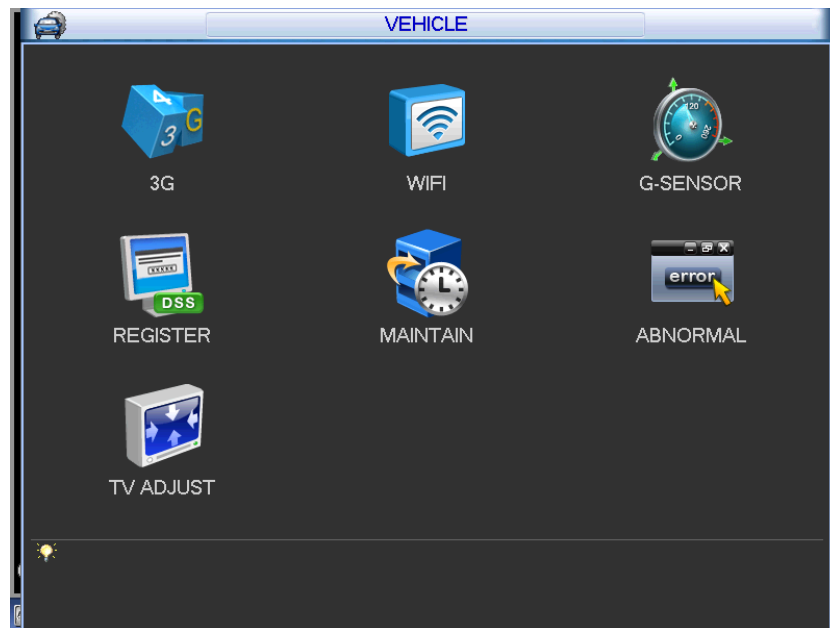

Figure 3-8
- Overlay: Click overlay button, you can see an interface is shown in Figure 3-8. Please note the following overlay titles can not be in the same position. **Please note only the unit of GPS module supports GPS overlay function.**
From main menu->Vehicle, you can see an interface shown as below. See Figure 3-8.